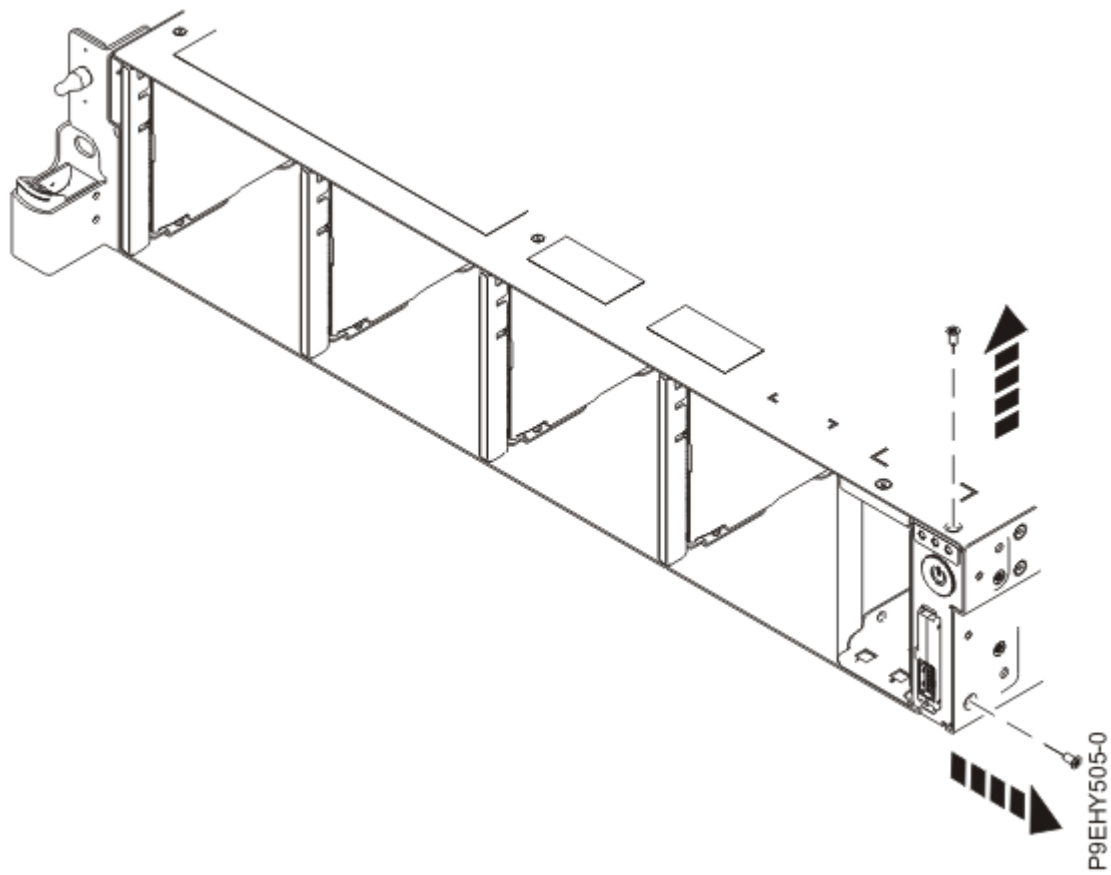

Figure 170. Remove the top and side screws
7. Remove the top and side screws from the power switch as shown in Figure 170 on page 187.